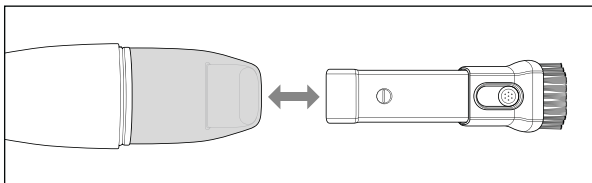

Fig. 2
- ◆ Insert the 2-in-1 suction nozzle ⑫ into the suction opening ② of the appliance. Make sure that the button for adjusting the brush nozzle is facing upwards (see Fig. 2).
- ◆ To remove the 2-in-1 suction nozzle ⑫, pull it out of the suction opening ② (see Fig. 2).